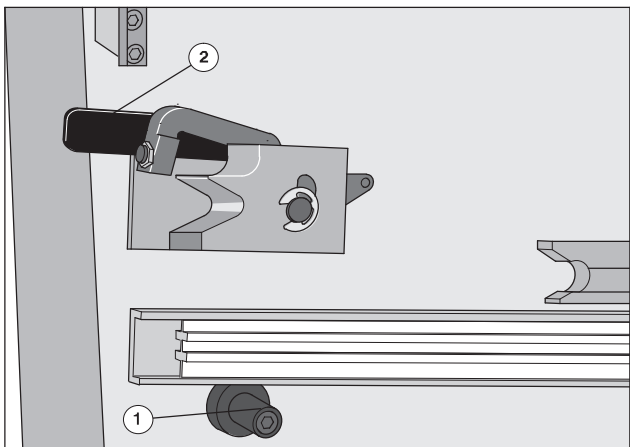

Fig. 60 Numbering slide-in unit locking device
2. Move the slide-in carriage up to the press. Let the tips of the guide rails of the slide-in carriage engage at the guide pins (Fig. 60/1) of the press.
3. Pull the locking lever on D.S. (Fig. 60/2) and O.S. towards the delivery up to stop.
5. Press the locking lever on D.S. (Fig. 60/2) and O.S. towards the feeder up to stop.